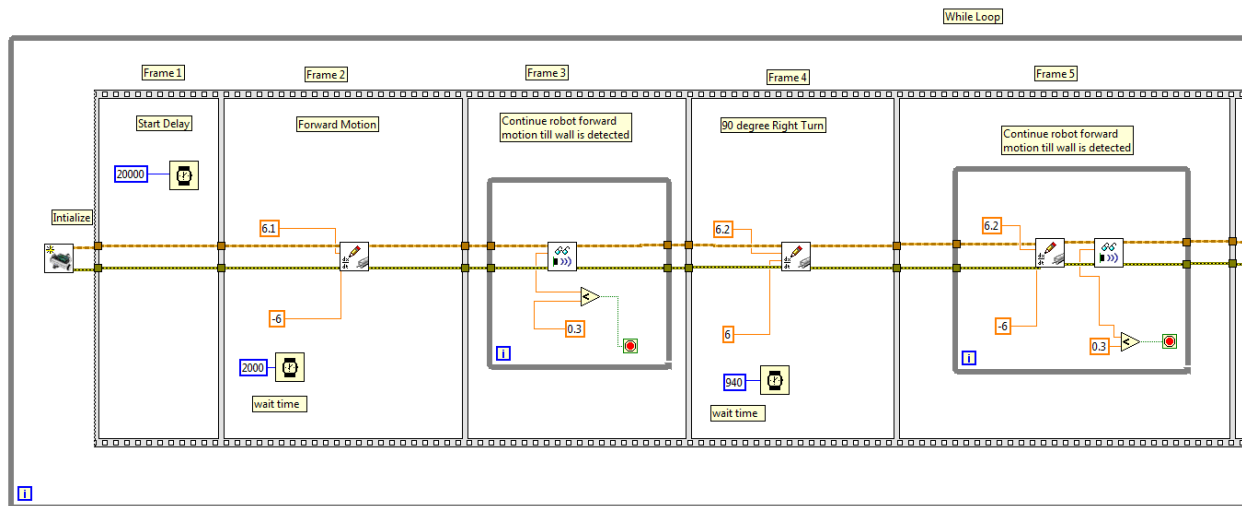

Figure 3: Complete Program for Course Completion Frames 1-5
4. Once both the sensors and motors were tested and adjusted, the program was created. This program uses flat sequence inside a while loop. Each frame in the flat sequence is a different operation for every movement of the robot. There are a total of 23 frames in the program. The first frame includes a time delay before the robot's motors start. This delay was set to 20 seconds in order to have enough time to disconnect the robot and set it and the starting position. The second frame activates the motors and moves the robot forward for 2 seconds. The third frame lets the motors continue its forward motion until it detects a wall within 0.3 meters of distance. When the wall is detected the motors turn in order to make the robot turn 90 degrees right. The fifth frame shows the robot moving forward until a wall is detected within 0.3 meters. Figure 3 shows this set of frames.